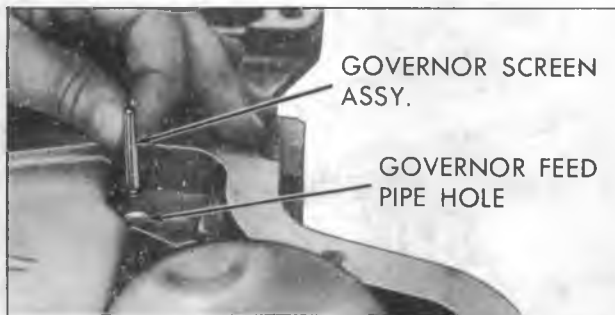

Figure 11—Removing Governor Screen
4. Remove governor screen assembly from governor feed pipe hole in case or from end of governor feed pipe (fig. 11). Clean screen in cleaning solvent and air dry.